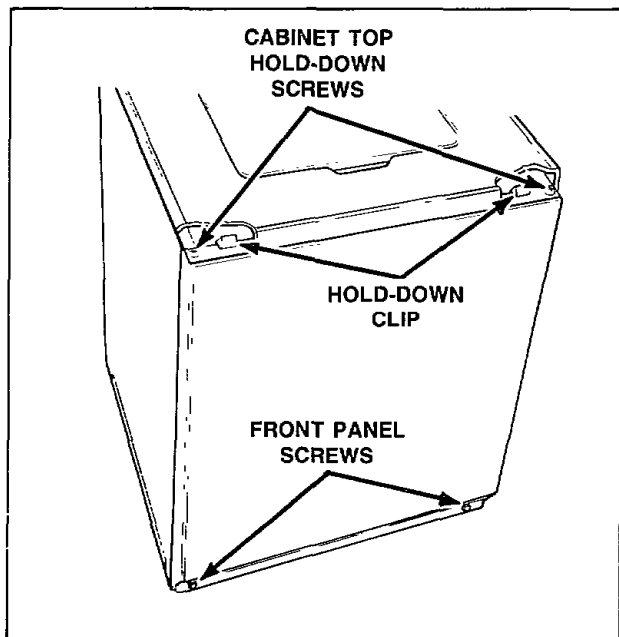

Figure 9
- e. Pull bottom of panel away from washer until hold-down clips (located on top flange of panel) disengage from slots in cabinet top, *Figure 9*.
- f. Remove two cabinet top hold-down screws, *Figure 9*.